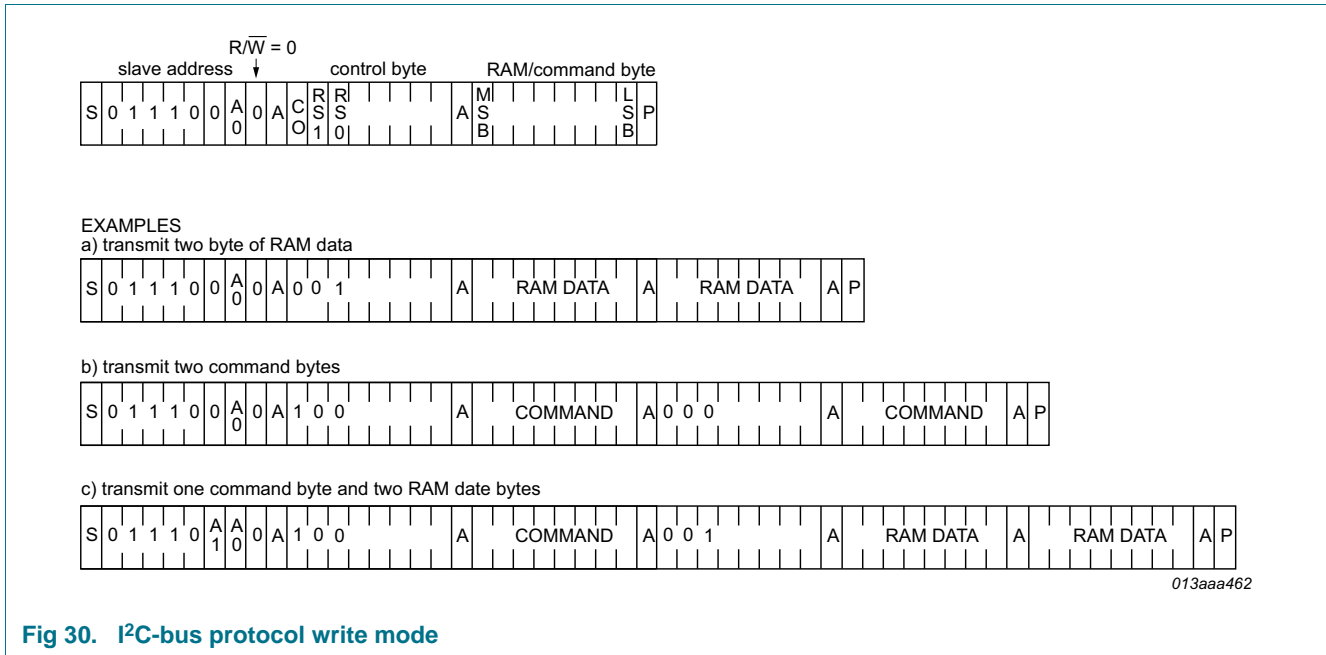

Fig 30. I2C-bus protocol write mode
The I²C-bus protocol is shown in Figure 30. The sequence is initiated with a START condition (S) from the I²C-bus master which is followed by one of the two PCF8545 slave addresses available. All PCF8545 with the corresponding A0 level acknowledge in parallel to the slave address. But any PCF8545 with the alternative A0 level ignore the whole I²C-bus transfer.